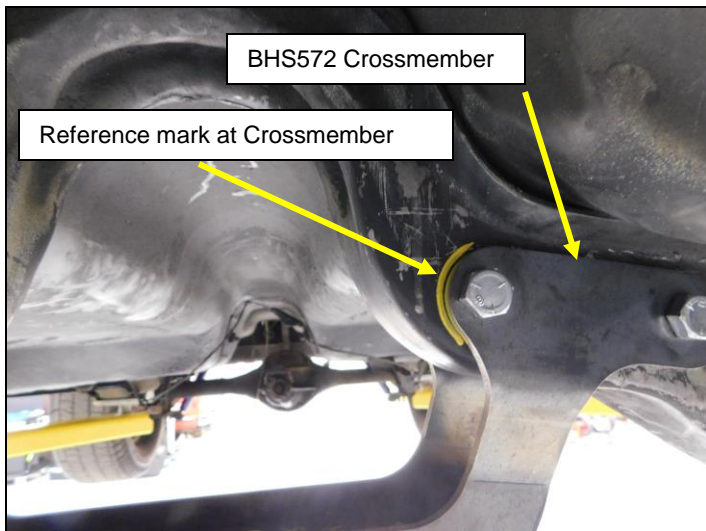

Figure 1
1. Install the BHS572 Transmission Crossmember into the car using the supplied 3/8" x 4" bolts. Use a paint pen or marker to outline the ends of the bracket onto the torsion bar crossmember at the inside sets of bolt holes as shown in **Figure 1**.